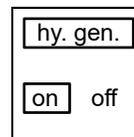

Fig. 75: Hydrogeneration display view
- Hydrogeneration must be activated under "**Fig. 75: Hydrogeneration display view**".